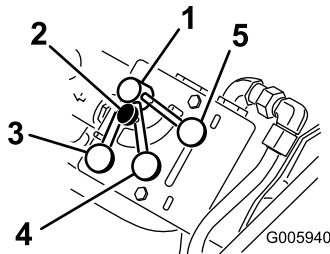

Figure 9
The traction unit hydraulics (i.e., the traction drive, loader arms, and attachment tilt) work on a separate hydraulic circuit from the auxiliary hydraulics for powering attachments; however, the two systems share the same hydraulic pumps. Using the flow divider control (Figure 9), you can vary the speed of the traction unit hydraulics by diverting hydraulic flow to the auxiliary hydraulics circuit. The flow divider allows you to divide the flow of fluid in varying degrees to slow the traction unit. Thus, the more hydraulic flow you divert to the auxiliary hydraulics, the slower the traction unit hydraulics will move.
**Note:** The flow divider control can be fixed in place by turning the knob on the control clockwise until it contacts the dial (Figure 9).